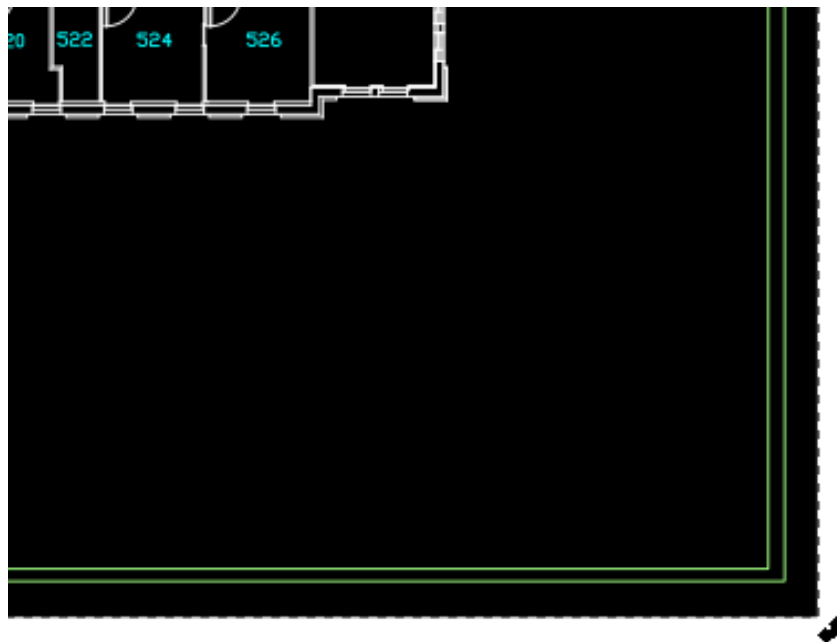

Figure 98 Select the Black Background Near the Corner
6. Select the black background near the corner so that the arrow icons appears at the corners as shown in Figure 98.